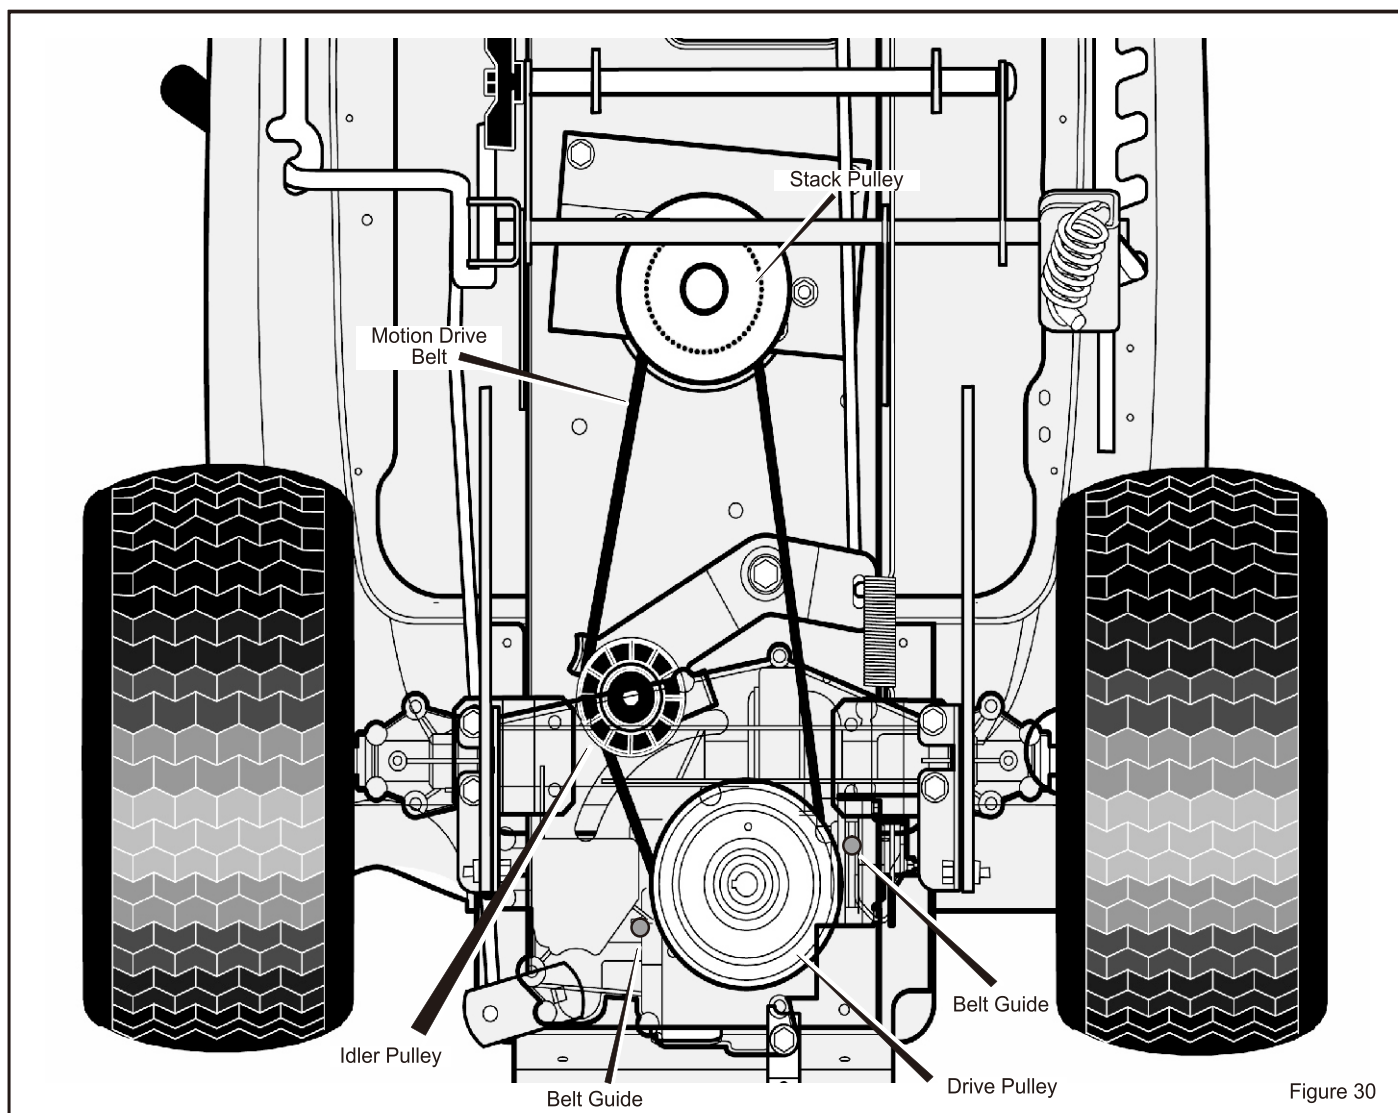

Figure 30
3. Remove the **idler pulley** (Figure 30).
1. Slide the **motion drive belt** between the **stack pulley** and the **belt guides** (Figure 30). Install the **motion drive belt** on the top pulley of the **stack pulley**. Make sure the "V" side of the belt is against the pulley.